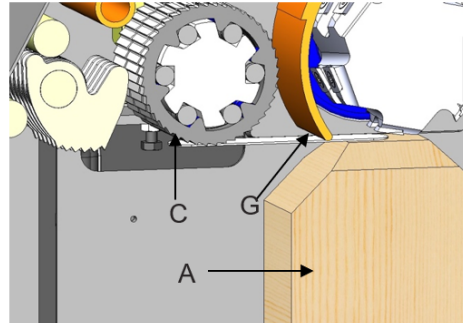
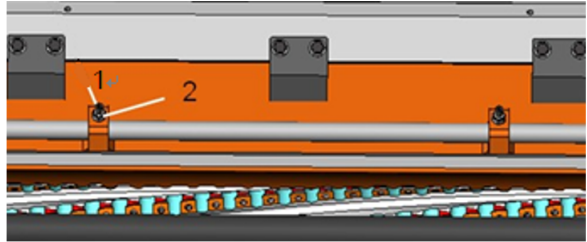

FIG. 17: FINGER ADJUSTMENT
FIG. 19: PRESSURE BAR ADJUSTMENT
1. Place a hard wood gauge (Fig.17, A) under a knife in cutterhead (Fig.17, B). Place a 0.02" feeler gauge (Fig.17, C) on top of wood block and raise table until feeler gauge contacts the knife in its lowest position.
2. Loosen screw (Fig. 19, 1) and nut (Fig.19, 2) turn the screw to the right so that the pressure bar moves upward. Place gauge block and 0.2m/m thickness gauge (Fig.17, A) under the cutterhead.
2. Place a hard wood gauge (Fig.17, A) under a knife in the cutterhead. Place a 0.02" feeler gauge (Fig. 17, B) on top of wood block and raise table until the gauge contacts the knife in its lowest position.